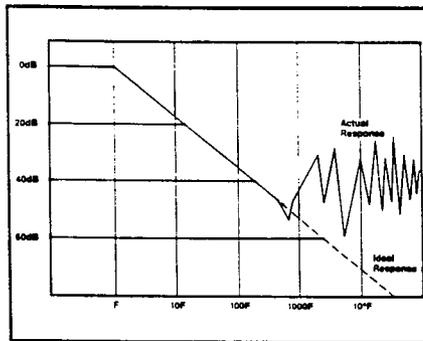

Figure 1. Analog amplifier frequency response.
can interfere with a 20 kHz audio amplifier. In fact, it is quite usual for rectification to occur when the frequency of the source is 100 to 1000 times the frequency of the victim, due to parasitic effects. This is shown in Figure 1, which compares the theoretical and the real-world rejection of a hypothetical analog amplifier. The high-frequency degradation is due to parasitic capacitances and inductances (3).